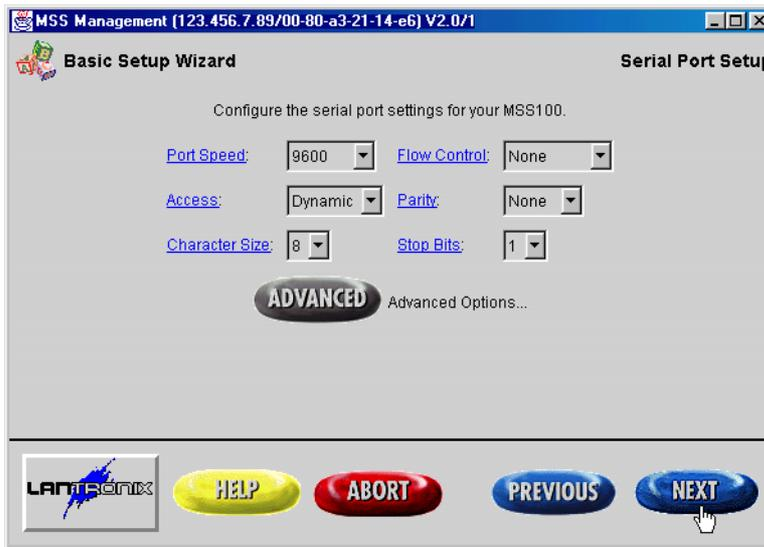

Figure 18 - Serial Port Setup
16. There are six fields that need to be set (see Figure 18 on page 14). Each of the six fields has a pull down menu; click on the down arrow beside each field and a list of available options for that field appears (the Advanced Options should be left at their default values). Click on each pull-down menu, scroll through the list of options and select the option per the following list.